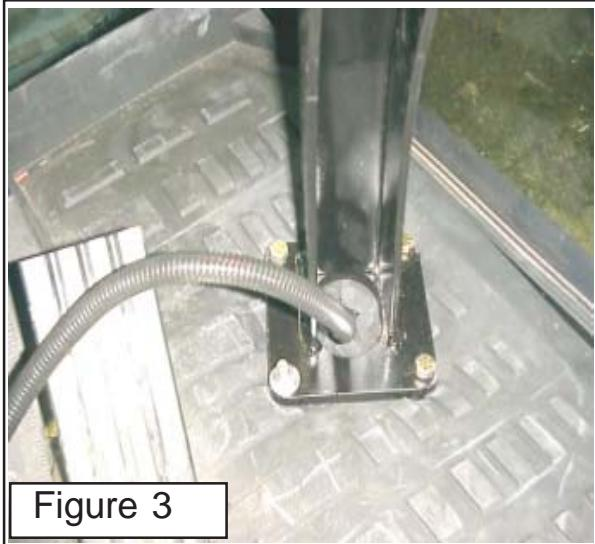

Figure 3
- Bolt in the Joystick stand.** Once the location has been determined and marked check under the cab to make certain that the other components will not be in the way of the drill or the bolts when installed. Drill the four mounting bolt holes and the hole in the center to run the electrical wiring through (See figure 3)
- Control Cable & Wire Harness Route through Cab Floor.** The wire harness and the control cables will be inserted through the cab floor in the same hole (See Figure 3). It is best to mark the cables as to which is which (Lift or Tilt), see Figure 5 for which cable connects to where on joystick and control valve section for which cable is connected to where at the valve. These cables must be connected correctly so the joystick will operate as the decal shows (See Figure 4)